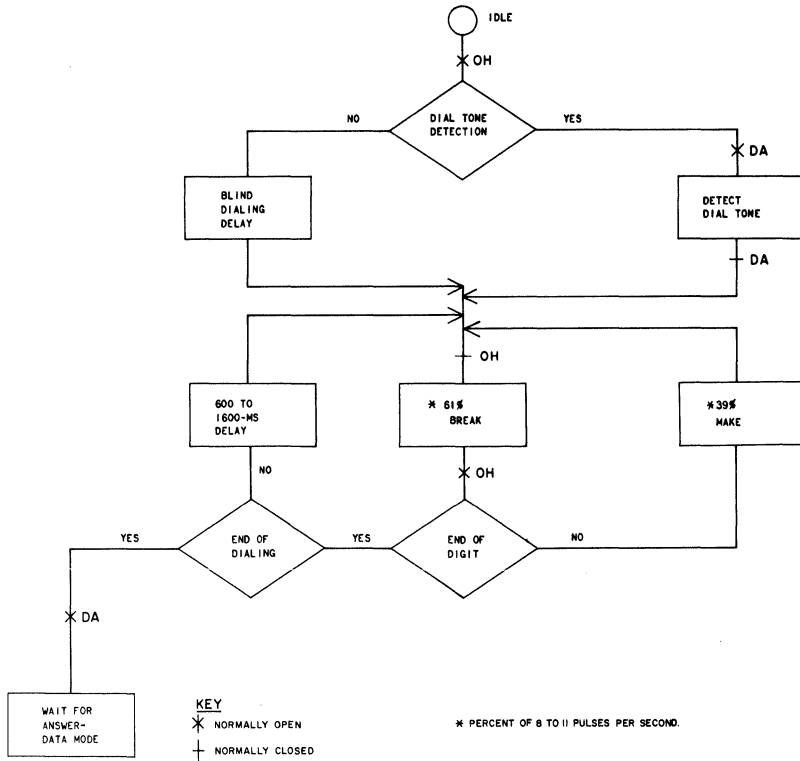

Fig. 4—Customer Automatic Calling Sequence Diagram—DC Dial Pulsing
2.15 Call Origination: Closing of the OH interface lead to -V by the customer, either for call origination or for transfer from a manually originated call, causes the OH relay to provide the off-hook function as previously described. Opening the OH lead causes the OH relay to release and open the dc path through the coupler. This sequence of operations permits the data terminal to generate dial pulses for call origination when dial tone is present. The pulsing sequence and timing requirements are as follows (see Fig. 4):